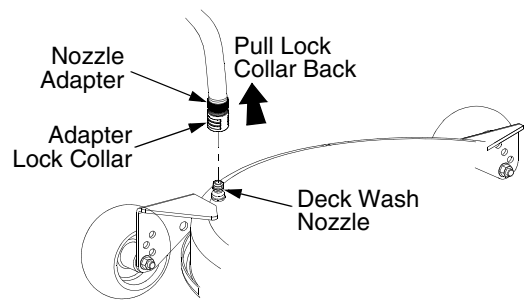

Figure 33
- Pull back the lock collar of the nozzle adapter and push the adapter onto one of the deck wash nozzles at either end of the mower deck. Release the lock collar to lock the adapter on the nozzle. See Figure 33.